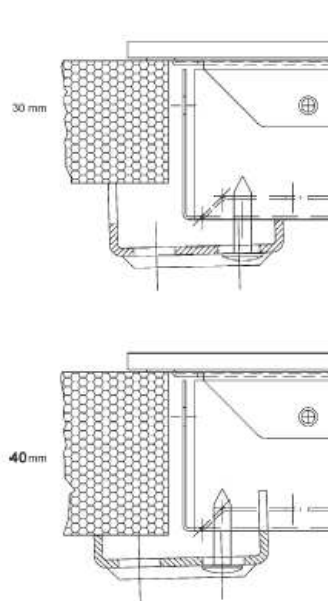

Fig. 7
- Ensure the clips are fitted in the correct orientation for the thickness of your worktop as shown in Figure 7 and that they grip the worktop before fully tightening.